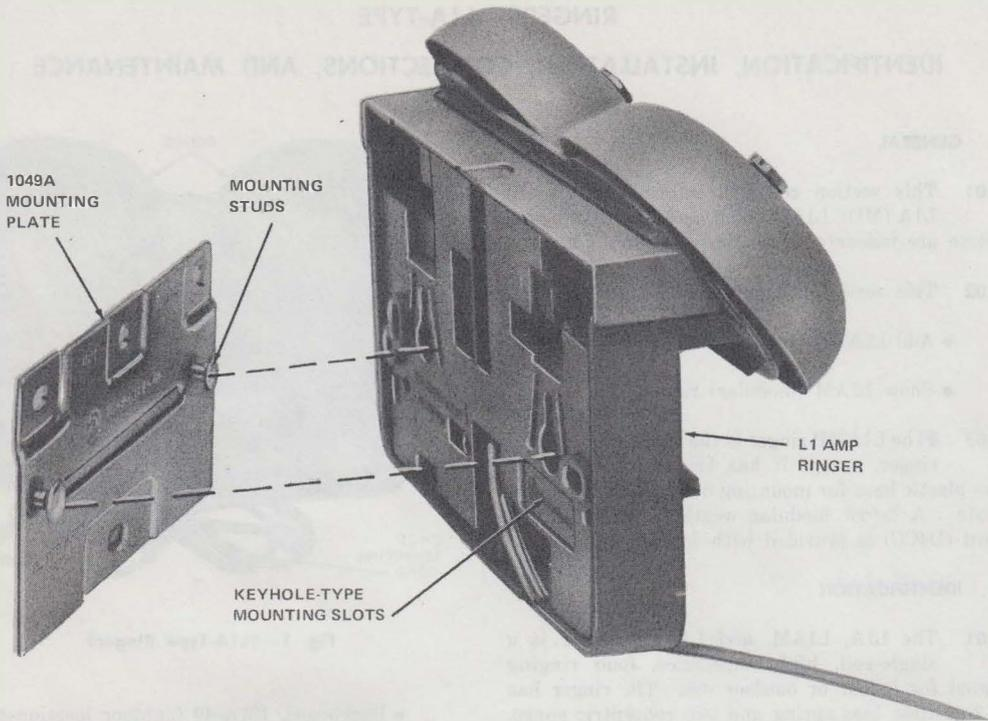

Fig. 2—L1AMP Ringer and Mounting Plate
**3.04** To mount ringer to mounting plate. Align mounting plate studs with keyhole-type slots in ringer, press ringer down on mounting plate until mounting studs completely engage ringer (Fig. 2).